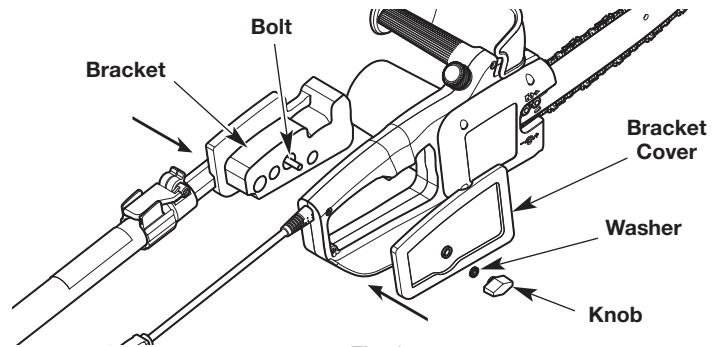

Fig. 2
3. Insert the bracket into the open area between the rear handle and rear hand guard (Fig. 2). The bracket should fit securely in place and hold the throttle control in the squeezed position.
4. Slide the bracket cover onto the bolt (Fig. 2).
5. Slide the washer onto the bolt (Fig. 2).
6. Thread the knob onto the bolt (Fig. 2). Turn the knob clockwise to tighten the bracket cover securely to the bracket.
3. Turn the knob counterclockwise to remove the knob from the bolt (Fig. 2).
4. Remove the washer from the bolt (Fig. 2).
5. Remove the bracket cover from the bolt (Fig. 2).
6. Separate the chain saw from the bracket (Fig. 2).